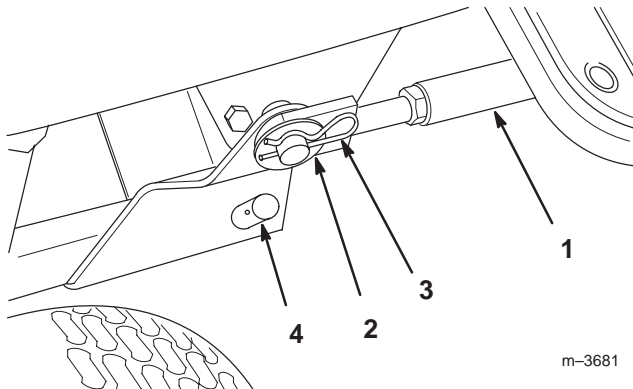
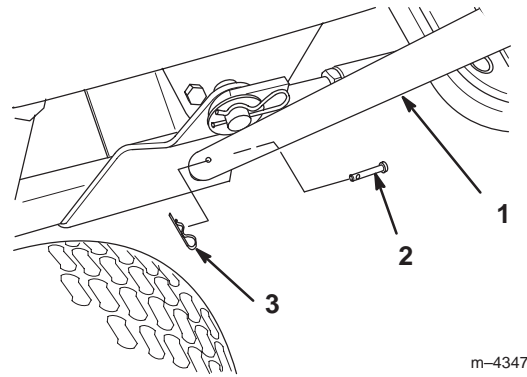

Figure 22
Figure 23
- 15.** Secure the other ends of the support braces to the frame rods protruding from the mid Attach-A-Matic™ hitch with a 15/16" (24 mm) washer and a large hairpin cotter (Fig. 22). You may need to turn the adjuster of each brace before the holes in the adjuster align with the frame rod.
- 16.** Slide the crank support onto the mounting post on the left-hand side of the tractor (Fig. 22). Secure it in position with a locking pin and small hairpin cotter (Fig. 23).